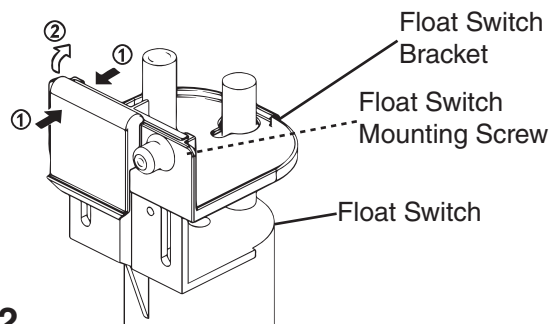

Fig. 12
- 5) Locate the FS behind the pump motor. Next, as shown in Fig. 12, pinch the FS bracket where indicated (1) and pull it forward diagonally (2) to unhook the FS, then remove the screw securing the FS to the bracket.